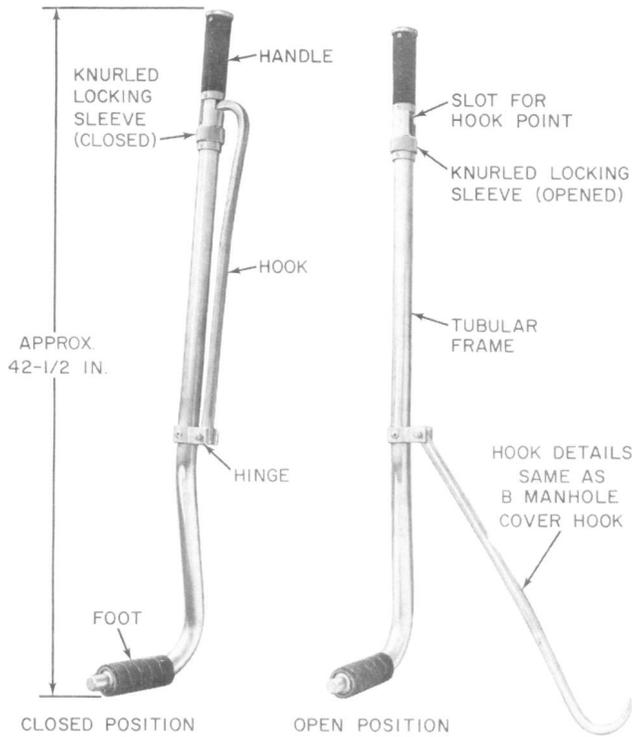

Fig. 5—Manhole Cover Lifter, Defiance Mfg. Inc. PTS-49
- 3.06** The PTS-49 Manhole Cover Lifter shown in Fig. 5 is a cadmium plated steel tool consisting of a modified B Manhole Cover Hook hinged to a tubular frame having a neoprene covered foot and handle. The open end of the hook can be locked in a safe, covered position for storage.